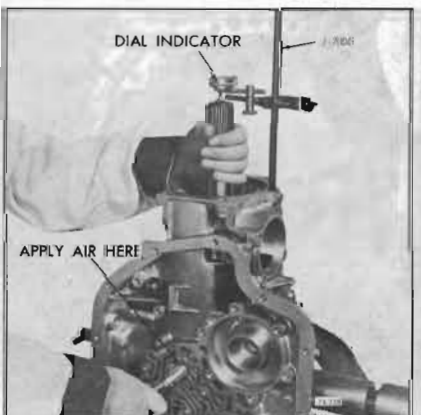

Figure 74-758
16. Check rear end play as follows: See Figure 74-758.
See Figure 74-758.